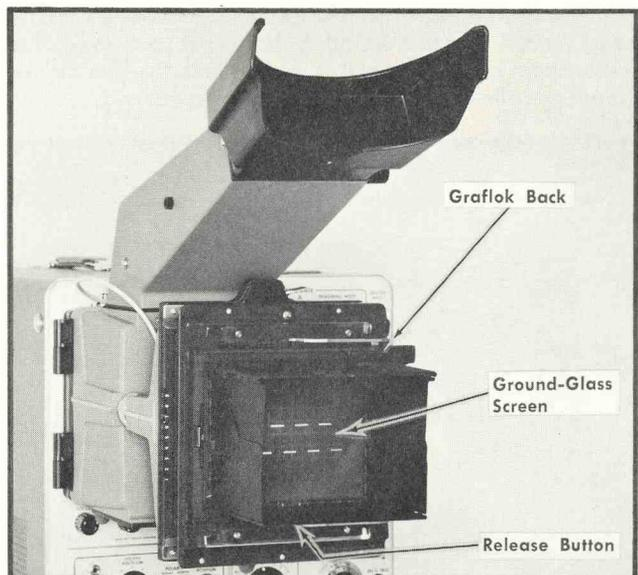

Fig. 2-5. The Graflok Back installed to permit focusing.
Install the 4x5 Graflok Back and press the release button on the back (see Fig. 2-5.) Set the lens for maximum aperture ($f/1.4$, $f/1.9$, etc. depending on the lens) and set the SHUTTER SPEED SELECTOR on Time (T). Obtain a sharply focused trace on the crt using the oscilloscope FOCUS and ASTIGMATISM Controls. Secure the camera in place on the oscilloscope. Open the camera shutter and observe the image on the ground glass screen of the Graflok Back. Release the FOCUS KNOB LOCK and adjust the FOCUS KNOB on the Main Frame to produce a sharply focused image of the oscilloscope trace on the ground glass screen.